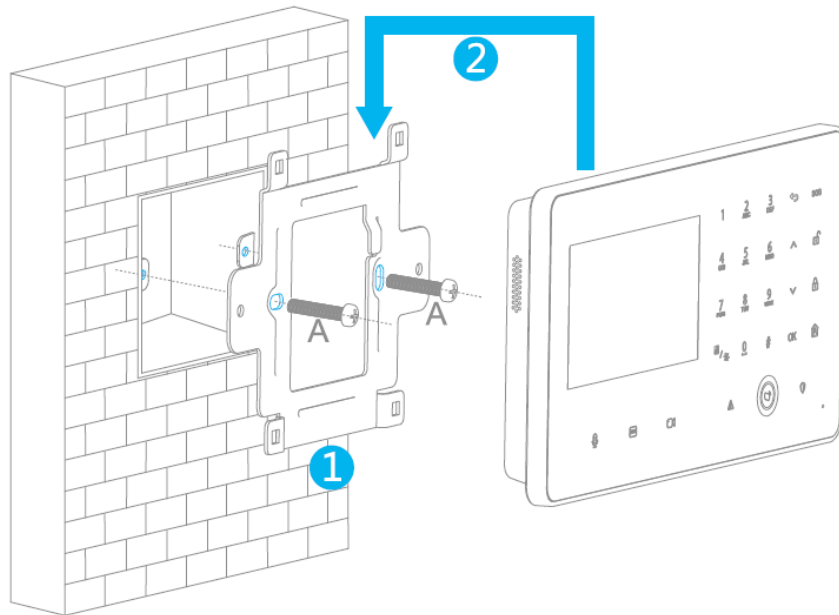

Figure 3-5
Step 2 Hang the device on the hook of installation bracket in accordance with arrow direction in Figure 3-5.